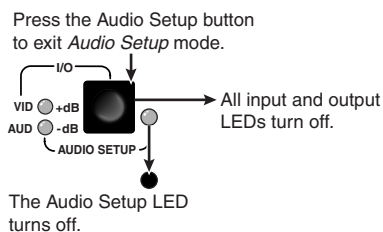

Figure 3-38 — Exit Audio Setup mode
5. Press and release the Audio Setup button (figure 3-38). All audio changes are saved.